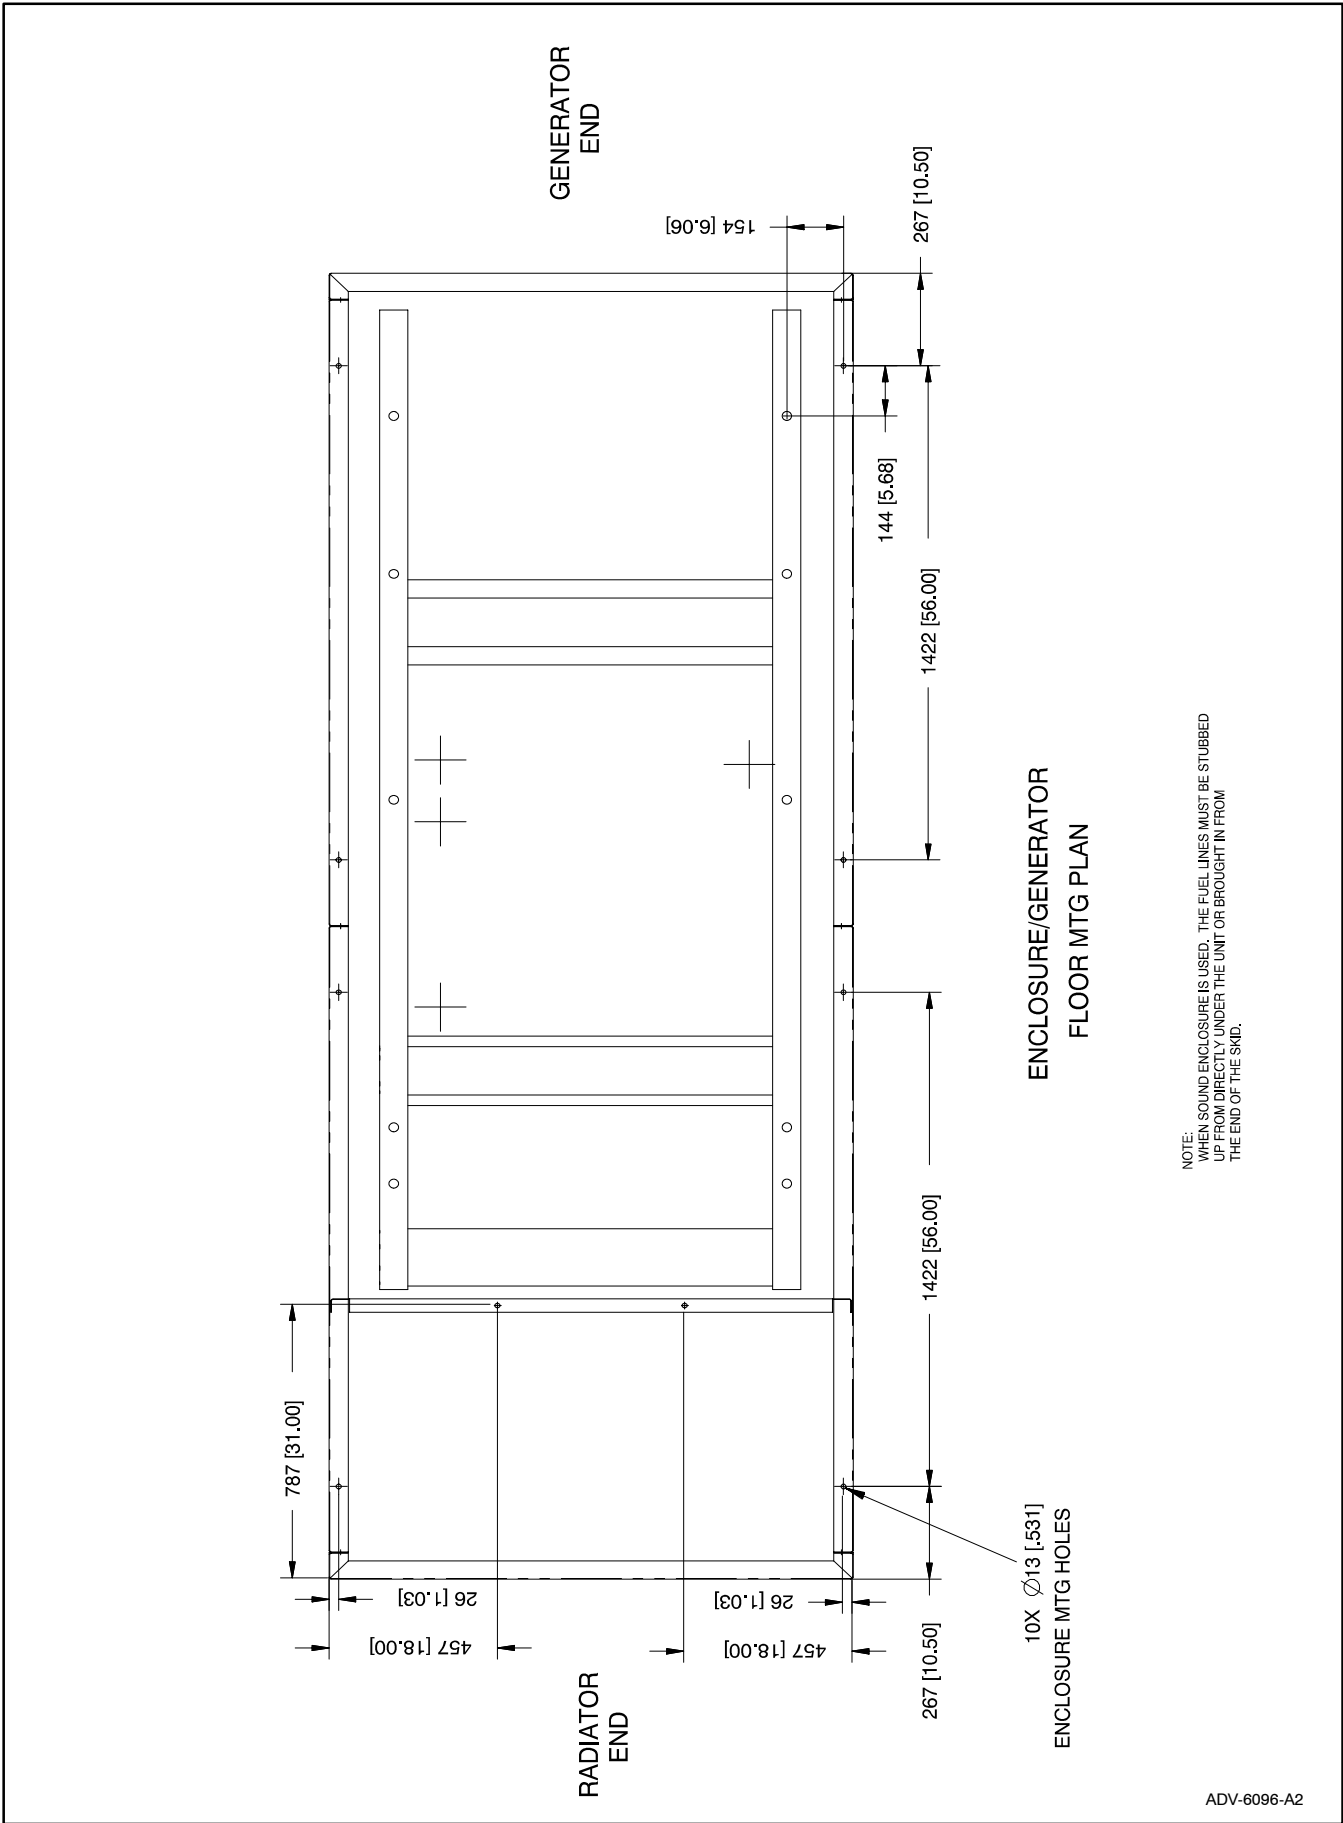

Figure 3 Sound Shield Dimension Drawing
5. Secure the sound shield enclosure to the mounting base. See Figure 3 for hole locations.